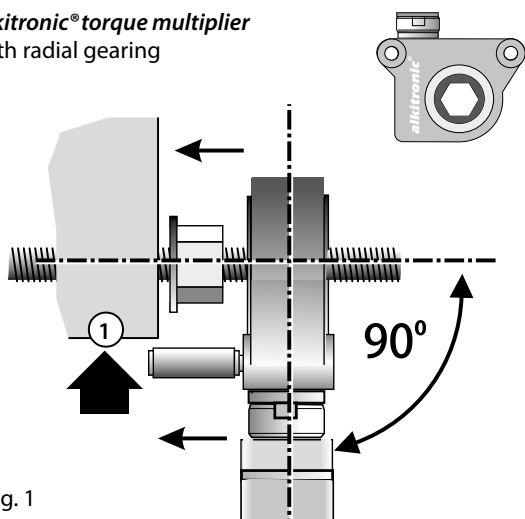
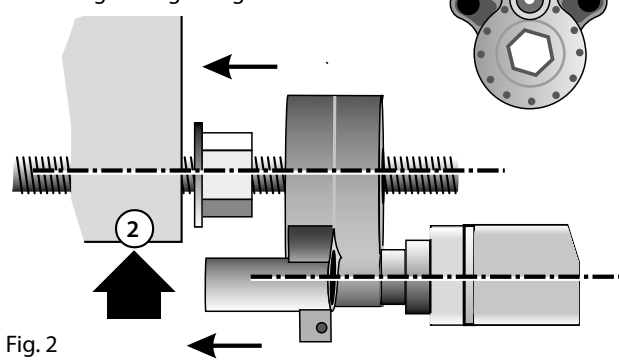

Fig. 1
Fig. 2
- A sure, stable counter-mount (Fig. 1/1)/(Fig. 2/2) must be ensured.
- keep the *alkitronic*® *EC-R* multiplier in a 90 degrees angle to the bolt (Fig. 1).
- keep the *alkitronic*® *EC-SG* multiplier in parallel line to the bolt (Fig. 2).